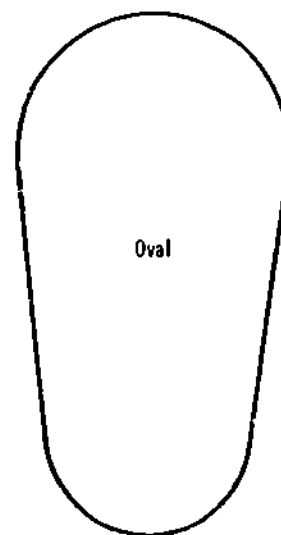

Figure 5-4. Oval
**Oval** — a plane figure having circular ends each having different radii and connected by straight lines at point of tangent (Figure 5-4).